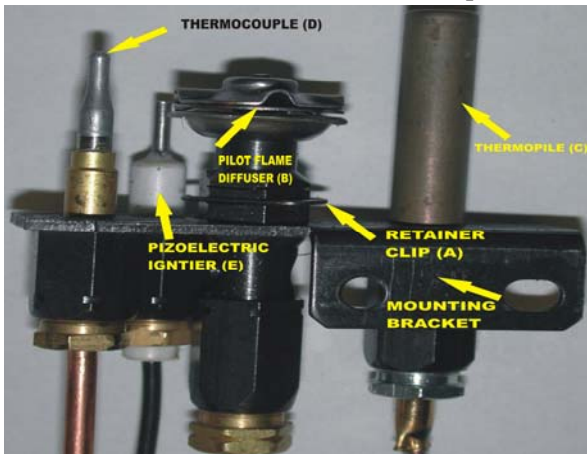
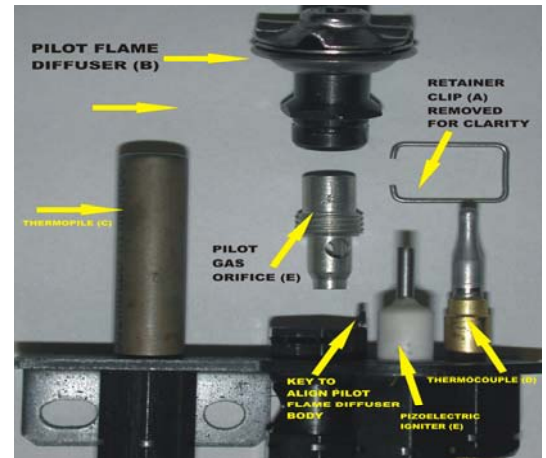

FIGURE 25: PILOT VALVE (back side)
FIGURE 26: PILOT VALVE
- Remove the pilot flame diffuser (FIGURE 25, Item B) by pulling up on it. The retainer clip (FIGURE 26, Item A) should release the pilot flame diffuser with a light pulling motion.